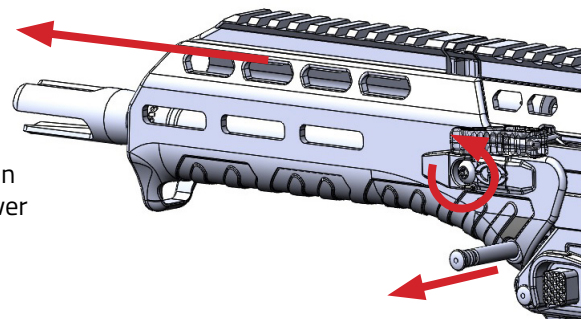

Fig. a-1
- Using the T25 side of the multi-tool, loosen the handguard retention screws. Press the captured handguard retention pin through from the right side to the left side of the MDR receiver until it snaps into position. (Fig. a-1)
- Slide the handguard off the front of the MDR. (Fig. a-1)